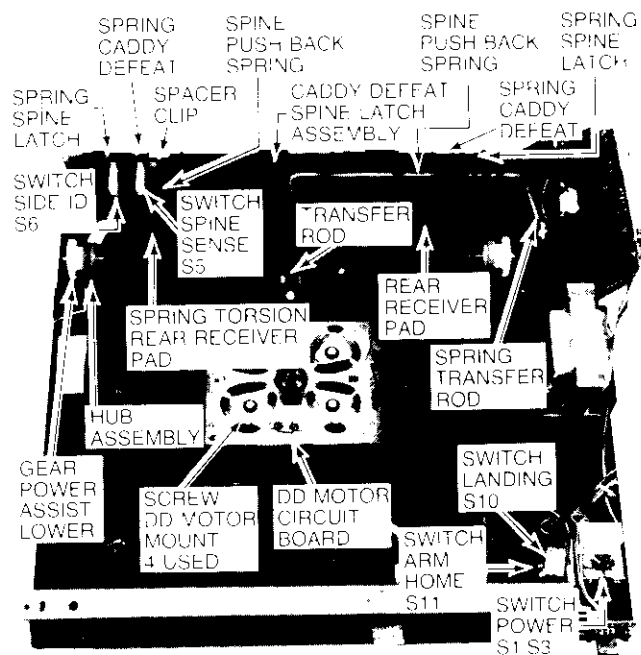

Fig. 19—Miscellaneous Disassembly
1. With guide rail assembly and turntable removed—release tension on rear receiver pad assembly torsion spring (Fig. 19) and remove wires to switch S8 from wire guide stud. Move switch and wire out of the way.
2. Lift rear receiver pad assembly (Fig. 19) straight up and remove from baseplate.
**Note:** Before replacing rear receiver pad assembly in position apply one (1) full turn of tension to torsion spring.
1. With guide rail assembly removed—release caddy defeat springs (Fig. 19) from baseplate studs.
2. Remove spacer clip (Fig. 19) from caddy defeat and spine latch assembly.
3. Slide caddy defeat and spine latch assembly (Fig. 19) to right—raise left side of assembly to clear mounting stud and slide assembly to left to remove.
1. With Guide Rail, Rear Receiver Pad and Caddy Defeat/Spine Latch assemblies removed—release Transfer Rod spring (Fig. 19) from baseplate stud.
2. Rotate Transfer Rod (Fig. 19) upward to clear center portion of baseplate.